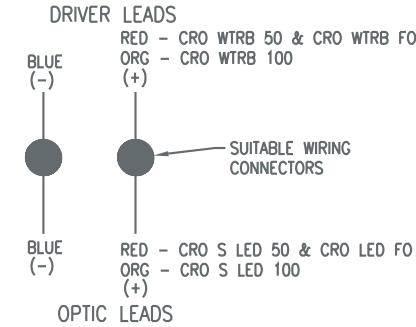

FIGURE 3
4. Make secondary, then primary, driver wiring connections. See Figures 3, 4, and 5 below. Re-install driver box cover.
3. Make secondary, then primary, driver wiring connections. See Figures 3, 4, and 5 above. Re-install cover. **IMPORTANT:** Supply wire rating must be equal to or exceed the temperature specified on the luminaire's product label. **IMPORTANT:** Drivers marked "Advance" can be used on any luminaire unit. Follow wiring instructions on driver.